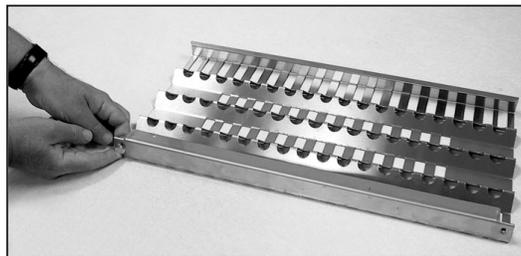

FIG.13
2. Unlock radiant end cap by pushing it up with two fingers (Fig. 13).
- a) **Unlock radiant end cap by pushing it up with two fingers (Fig. 13) or pliers may be used.**